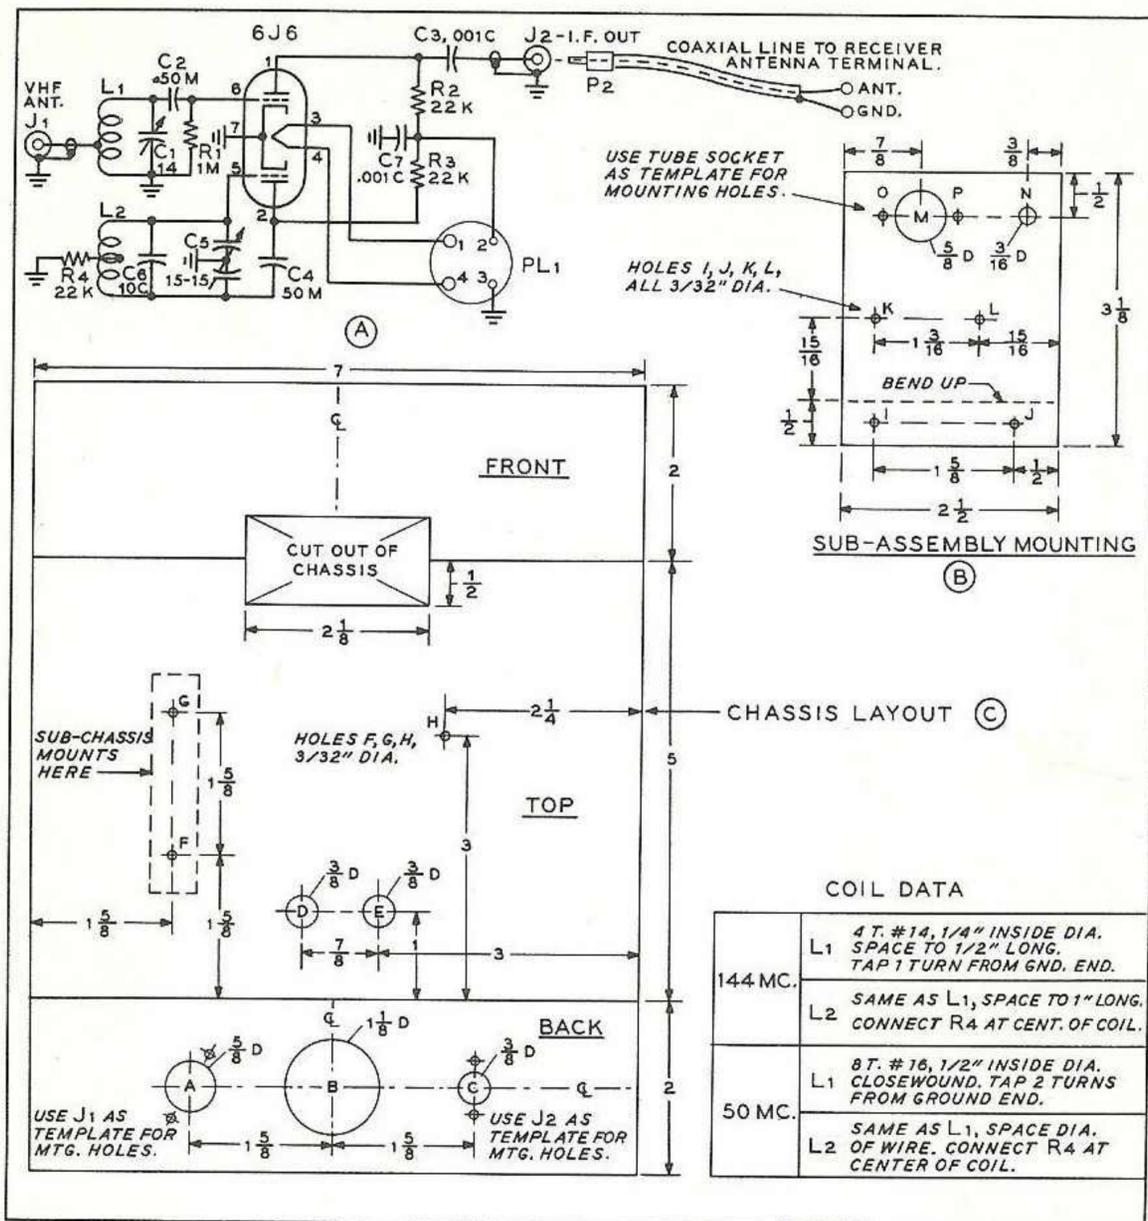

Fig. 13 Schematic diagram, parts layout, and coil table for VHF converter.
The complete schematic of the S2-6 is shown in Figure 13. One section of the 6J6 is the VHF mixer, and the second section is the conversion oscillator. The output i-f range of the converter is determined by the tuning range of the high frequency oscillator. Normally a 4 mc i-f range in the vicinity of 15 mc is used for both 2 and 6 meter operation. However, if the performance of your station receiver is "not so hot" at this high frequency range, the i-f output of the converter may be set as low as 7 mc. The output circuit of the S2-6 is untuned, so changing the intermediate
Fig. 14 Placement of the major components are seen in this rear view. Most parts are mounted upon the sub-assembly plate (B) shown in Figure 13. Power plug and output receptacle (J2) are to the right of antenna receptacle J1. Front of chassis has small cut-out to clear dial mechanism.
- ( ) Wind coil L2 (Figure 13) and install it between the front and rear stator terminal lugs of C5.
- ( ) Wind coil L1 (Figure 13) and install it between the stator terminal of C1 and the ground lug mounted beneath the rear foot of tuning capacitor C5. If the coil does not reach, move the soldering lug slightly, but do not stretch or compress the coil.
With an ohmmeter, measure the resistance between pin 1 and pin 2 of the tube socket. It should be 44K. The resistance of pin 2 of the tube socket to pin 2 of PL-1 should measure 22K. Resistance of pin 2 of the tube socket to ground should be infinity. Check all wiring against Figure 13 before power is applied to the converter.